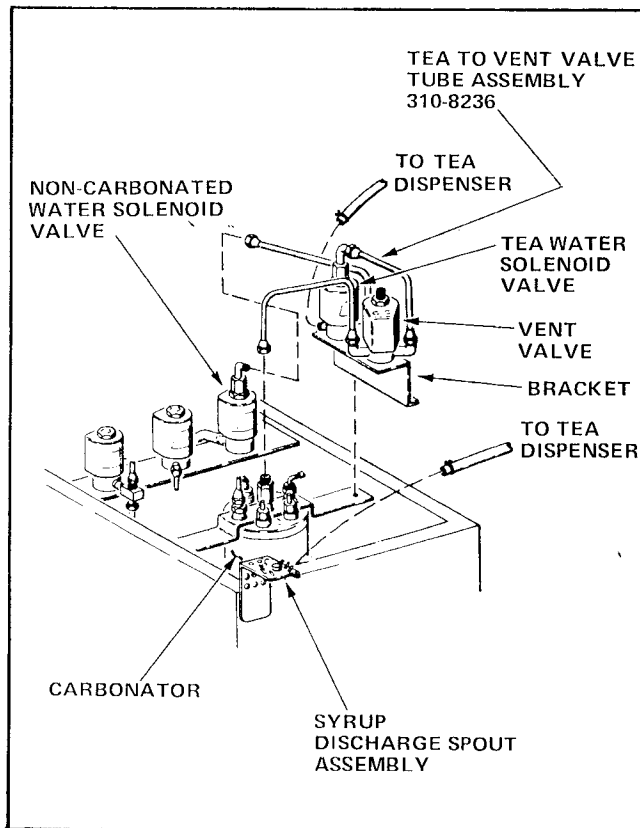

FIGURE 6
- a. Unclamp and remove from the Syrup Discharge Spout Assembly the Tube that leads to the Tea Dispenser. See Figure 6.
- b. Unclamp and remove from the Tea Water Solenoid Valve the Tube that leads to the Tea Dispenser Tag the Tube "Tea Water Solenoid". See Figure 6.
- c. Disconnect at the Carbonator the Tube that leads to the Vent Valve. See Figure 6.
- d. Disconnect at the Non-Carbonated Water Solenoid Valve the Tube that leads to the Tea Water Solenoid Valve. See Figure 6.
- e. Remove the Tea Water Solenoid Valve, the Vent Valve, and Bracket from the Water Bath by loosening the Screw in the keyhole-shape mounting hole at the base of the Bracket. See Figure 6.
- f. Disconnect and remove the Tube going from the Tea Water Solenoid Valve to the Vent Valve Tube Assembly, Part Number 310-8236, included in the Kit. See Figure 6.
- a. Attach the Tea Water Solenoid Valve, the Vent Valve and Bracket, that was removed in Step 19 of Part A, to the Pan Head Slotted Screw located at the right end of the Carbonator Mounting Bracket. Do not remove the Screw. See Figure 6.
- b. Clamp the Tube tagged "Tea Water Solenoid" in Step 19b of Part A to the Hose Connector fitting on the Tea Water Solenoid Valve. See Figure 6.
- c. Clamp the Tube, leading from the Tea Dispenser, to the Tea Dispensing Tube on the Syrup Discharge Spout Assembly. See Figure 6.
- d. Connect the Tube Assembly that leads from the Vent Valve to the Carbonator. Tighten the flare Nuts. See Figure 6.
- e. Connect the Tube Assembly that leads from the Tea Water Solenoid Valve to the Non-Carbonated Water Solenoid Valve. Tighten the flare Nuts. See Figure 6.